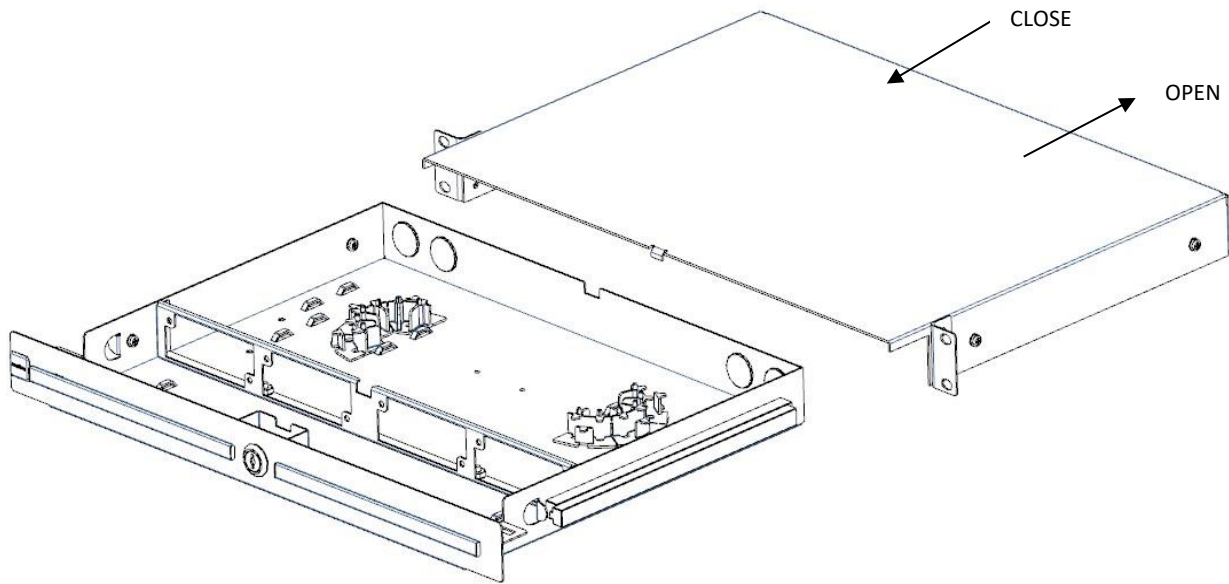

Fig.1
3.0 PROCEDURE**3.0.1 Open/close slide drawer (Fig.1)**